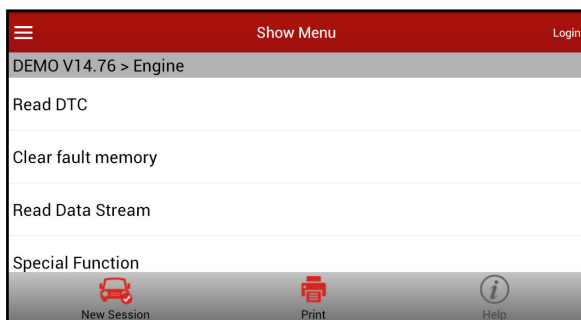

Fig. 4-15
- 3). Tap "Engine", the system will jump to the function menu. See Fig. 4-15.